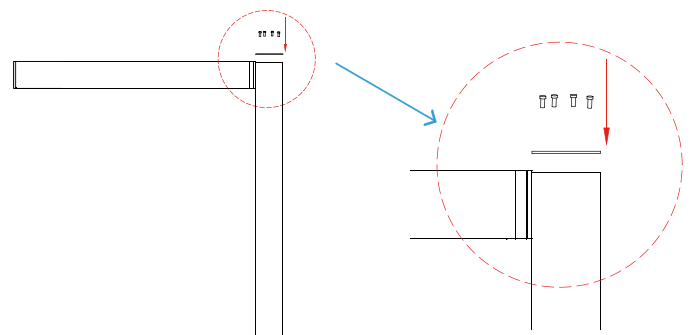

Fig. 7
4. Put a cap (self-purchased) on the top of the light pole to prevent rain from entering, see Fig. 7.